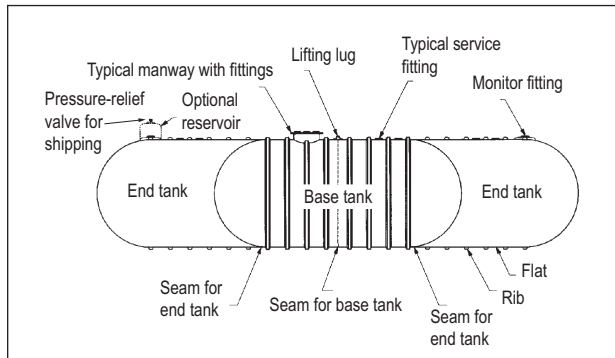
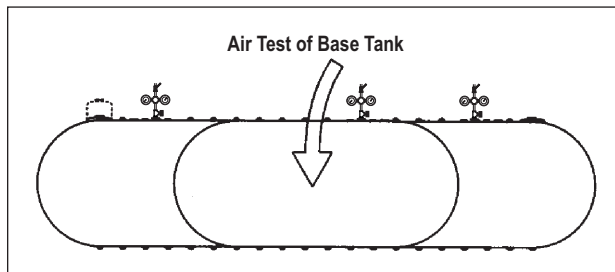

FIGURE 3-10
FIGURE 3-11
3.7.1.2. Redope fittings and install plugs in all openings, except one service fitting in each compartment (needed for the test manifolds). Follow instructions in Point 3.1.5. (See FIGURE 3-10 and FIGURE 3-11.)
3.7.2.1. Connect the pressure source to the test manifold on the base tank. (See FIGURE 3-3 and FIGURE 3-11.)
3.8.1.1. See FIGURE 3-10 for reference.
3.8.3.1. Connect the pressure source to the test manifold on the base tank. (See FIGURE 3-3 and FIGURE 3-11.)